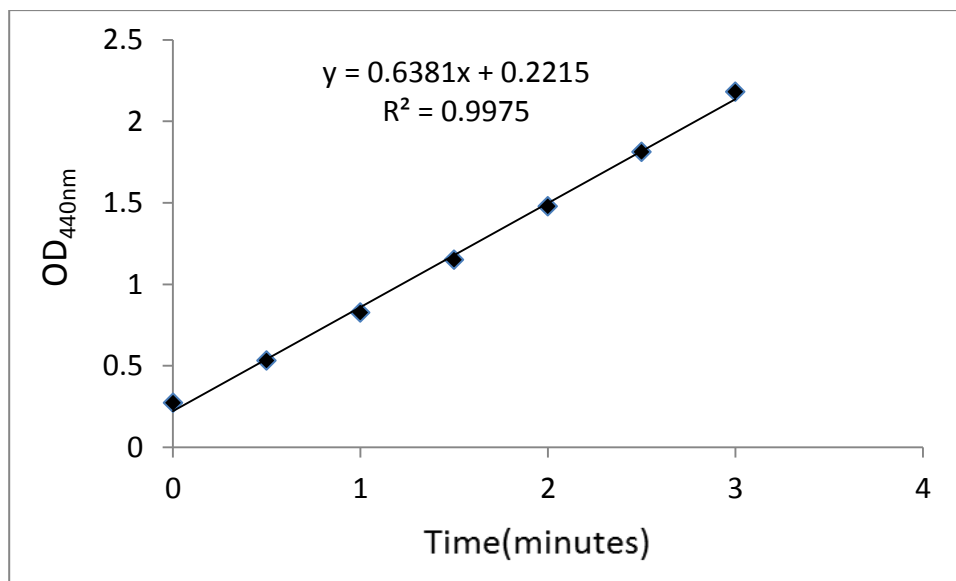

Figure.1 Absorbance change of diluted ADH positive control at 440nm.
Diluted ADH positive control is measured with the ADH Assay kit after different times of reaction (Figure 1 and 2). The detection limitation range is the absorbance increase of 0.01 to 0.6 per minute.
2. Add 90 µL of working reagent mix into each well of the 96-well plate containing diluted ADH positive control, samples and blank, mix well immediately and start recording OD_{440nm} over 3 minute intervals, collecting data every 0.5 min. Figure 1 shows data of ADH positive control.